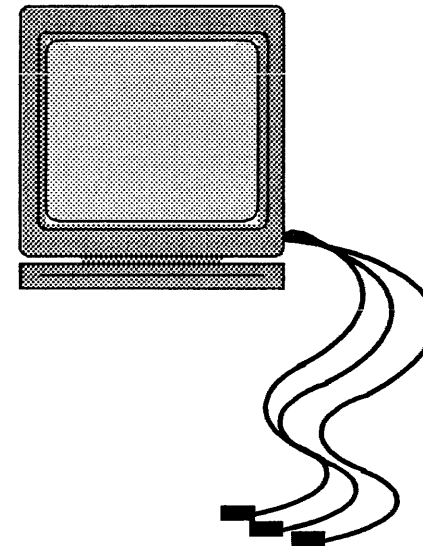

Figure 23. Uncoiling the Three Cables Attached to the Display
1. Uncoil the three cables (the display cable, the keyboard cable, and the display power cord) from the rear of the display (Figure 23).